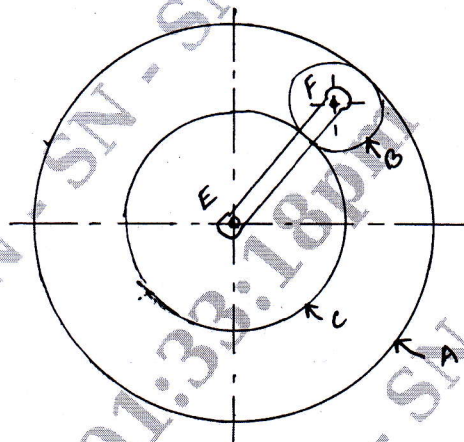

Fig Q8(a)
- 8 a. An epicyclic gear consists of three gears A, B and C as shown in Fig Q8(a). The gear A has 72 internal teeth and gear C has 32 external teeth. The gear B meshes with both A and C and is carried on an arm EF which rotates about the centre of A at 18 rpm. If the gear A is fixed, determine the speed of gears B and C.